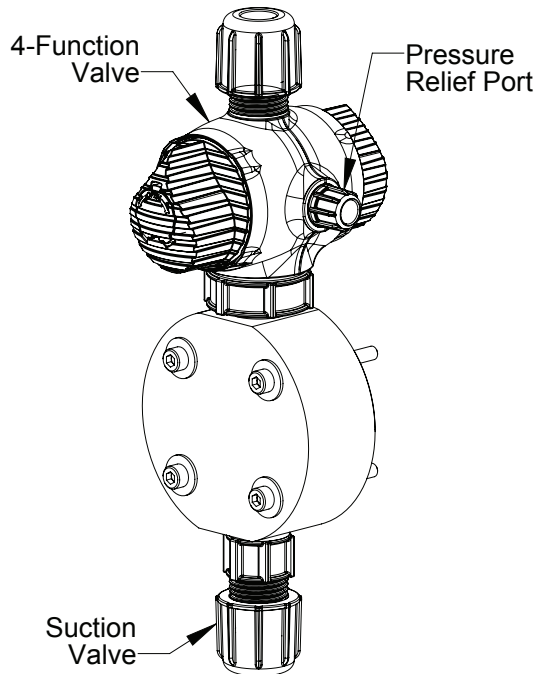

FIGURE 3
1. Connect pressure relief tubing to the pressure relief port **(FIGURE 3)**. Route tubing to the solution tank. This tubing must not be submerged in the solution.